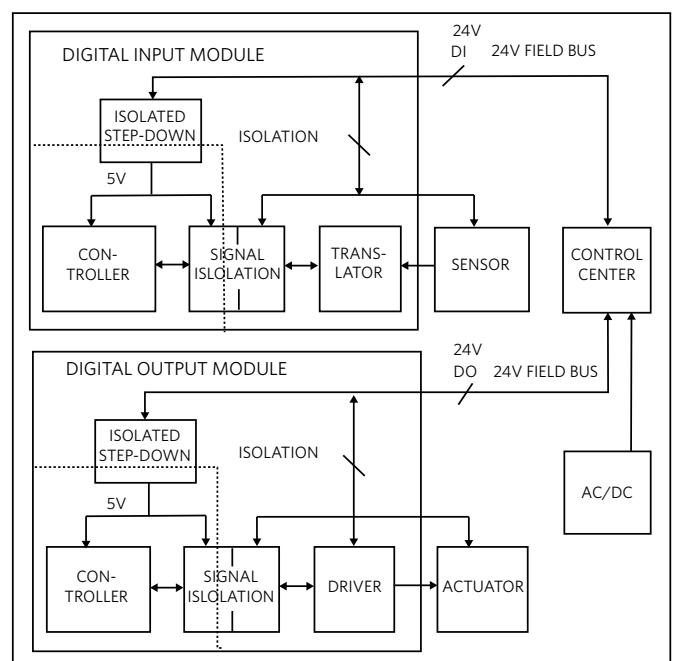

Figure 29. Digital I/O Module and Factory System Block Diagram
Figure 29 illustrates a generic digital I/O module and factory system block diagram. A central hub takes the AC line power and converts it to 24V DC, delivered to the I/O module together with the corresponding digital input (DI) and digital output (DO) data. With electric and magnetic interference and overvoltages, the factory environment is harsh and requires additional protection for sensitive electronics. Each module's PLC is powered via an isolated step-down voltage regulator. At the digital input module (DIM), a rugged voltage-level translator interface powers the sensor, receives its information, and passes it along to the PLC via a digital isolator or optocoupler. A similar power, signal, and isolation chain on the digital output module (DOM) leads to the on-board driver, which interfaces to the external actuator. A power-efficient and compact implementation of the isolated step-down converter in the input and output modules is necessary for modern systems.